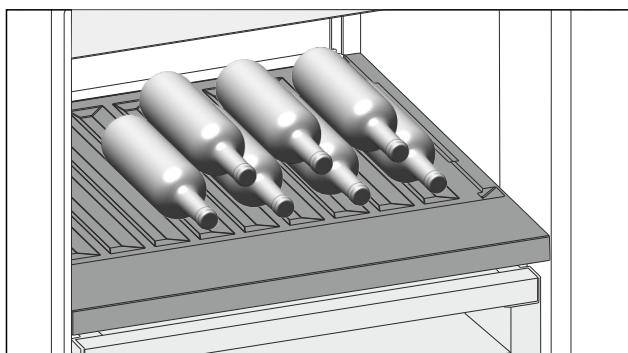

Fig. 109
- ▶ Insert the bottles facing backwards towards the rear wall. (see Fig. 109)